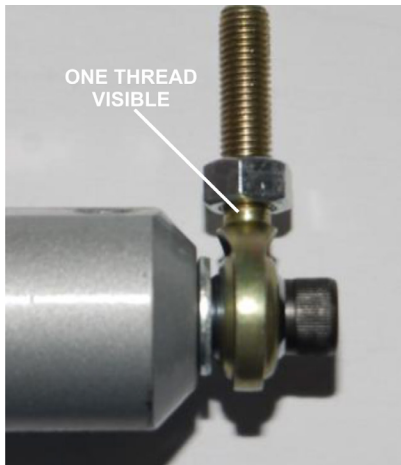

Figure 49. Visible Thread
- a. Verify at least 1 thread is visible below lower bolt on all heim joints (Figure 49).